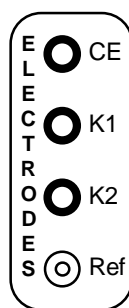

Figure 2-3: Electrode Connections
There are four jacks located on the far right side of the front panel that are used to make connections to the electrochemical cell (see: Figure 2-3). The upper banana jack is a low impedance output to the auxiliary or counter electrode (CE).